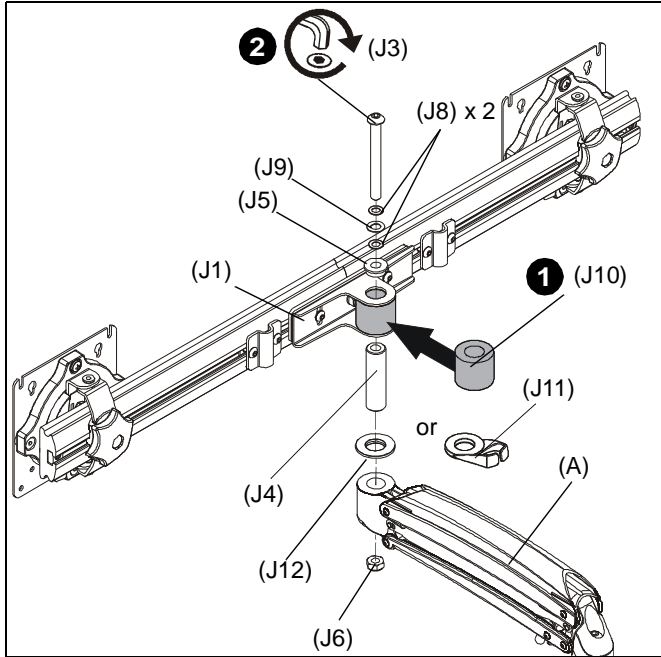

Figure 12
1. Slide rotational spacer (J10) into opening on array attachment bracket. (See Figure 12)
2. Use 5/16-18 x 3" button head cap screw (J3), two thin steel washers (J8), plastic spacer (J9), pocket washer (J5), pivot pin (J4), pivot point spacer (J12) and 5/16-18 lock nut (J6) to secure array (J1) to K1C arm (A). (See Figure 12)
NOTE: Cable clip (J11) can be used in place of pivot point spacer (J12) if additional cable management is desired. (See Figure 12)